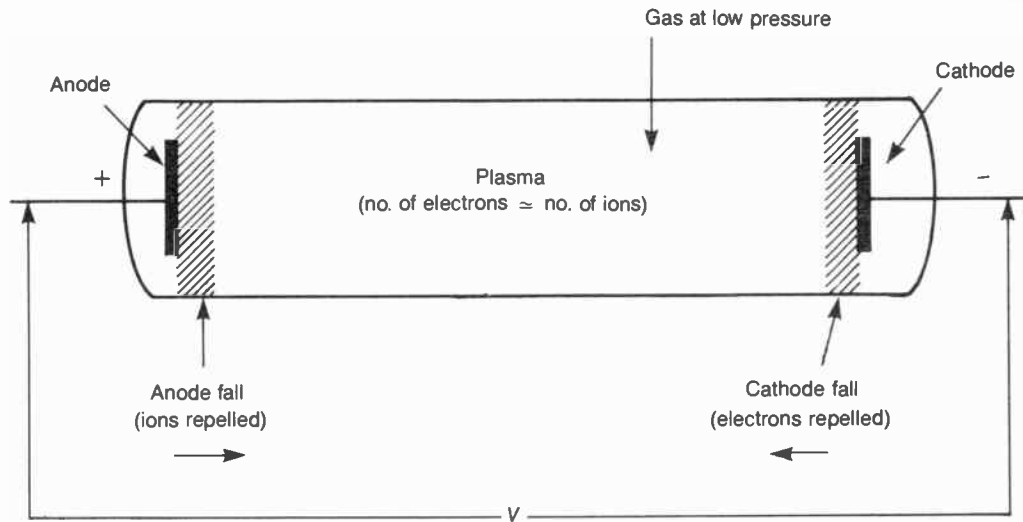

Fig. P9 Plasma
**PLASMA** is formed in the centre of a gas discharge. Consider the simple gas-discharge tube shown in Figure P9 and assume that  $V$  is greater than the breakdown voltage (i.e. that at which the gas fully ionizes). Under these conditions it is found that the fall in voltage between the two electrodes is not proportional to distance. There is a large potential drop in front of the anode because positive ions are repelled there, the net charge is therefore negative. Equally at the cathode electrons are repelled and again there is a potential drop. These potential changes are known as the *anode fall* and the *cathode fall*. In between them is the region with only a relatively small potential across it known as the *plasma*. The plasma consists of almost equal numbers of electrons and ions so there is very little net charge. Because of the many free charge carriers its resistance is very low, hence even though only a small potential exists across it, the current is large. Most of the current is carried by the electrons owing to their much higher mobility.